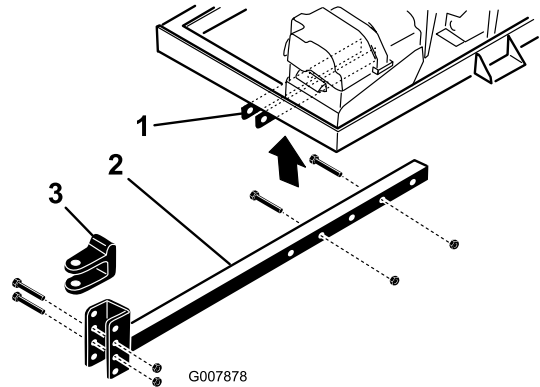

Figure 4
2. Insert the hitch tube into the frame brackets (Figure 4). Secure the tube to the frame with 2 bolts (3/8 x 3 inches) and flange nuts (3/8 inch) and torque to 40 N-m (30 ft-lb).
- Remove the bolts and locknuts securing hitch clevis (Figure 4) to hitch tube.
- Remove the bolts and nuts securing the hitch tube to frame brackets (Figure 4).